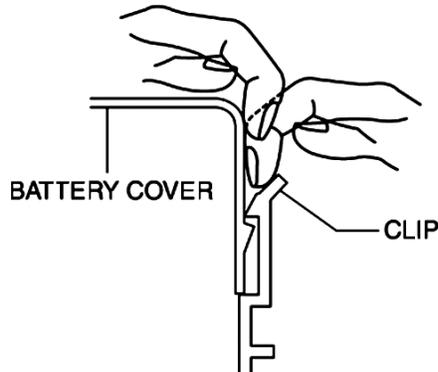

Fig. 1 Battery cover removal (Part 1 of 2)
- a. To prevent damage to clips, remove battery cover one side at a time. When pulling clips, do not apply excessive force to a clip using screwdriver or pair of pliers, **Fig. 1**.